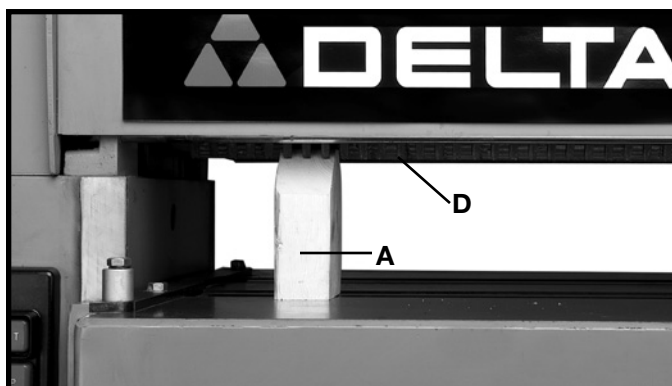

Fig. 47
- Place gage block (A) Fig. 47, under infeed roller (D). The bottom of roller (D) should just touch gage block (A).